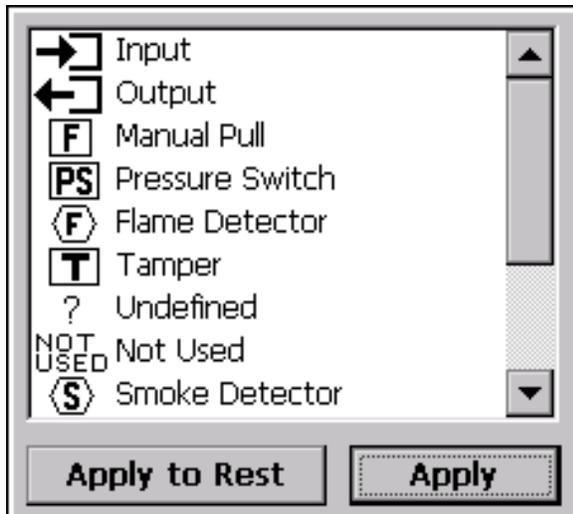

FIGURE 9.1 Icon Upper Menu
□ Referring back to figure 9 to the far left, are icons in boxes that represent the device name. Select an icon that best represents the alarm style. When an alarm occurs, **the name to the right of the icon in figure 9.1 or 9.2** will appear in the **DEVICE NAME** column as indicated in figure 13.7.